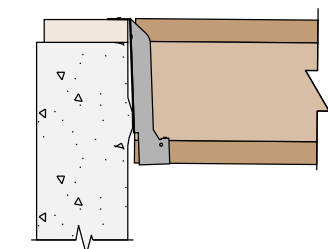

Figure 21
- Hanger rubbing against deformation in the foundation (Figure 21).